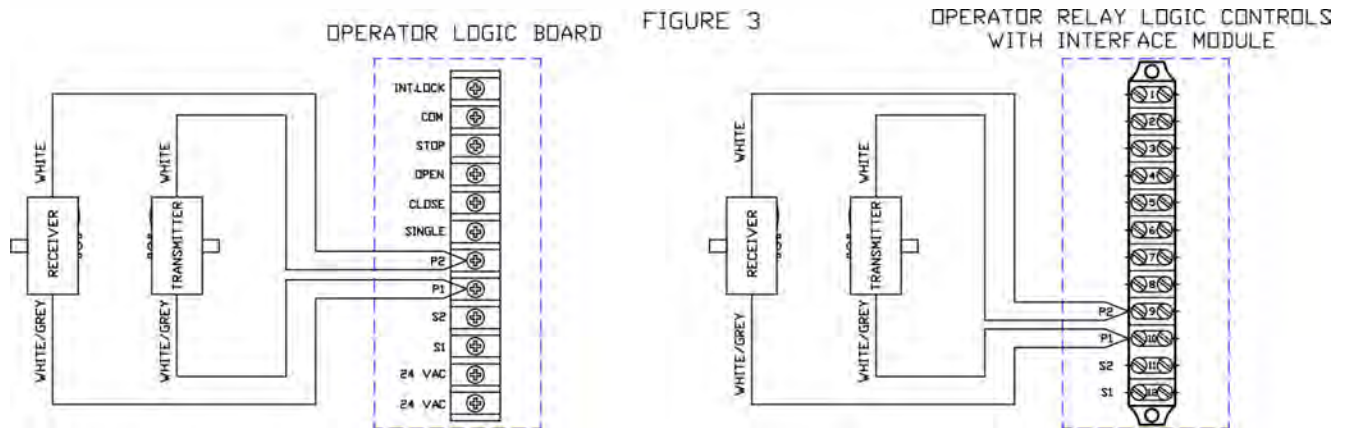

FIGURE 3
- 6- Connect these paired wires to the P1 and P2 terminals on the logic board (or interface module if applicable) as shown in Figure 3.
3. Plug sensors into flexible adapters as shown in Fig. 2. Please note that the 2 brackets are not identical. The receiver (Rx) must be installed into the receiver adapter and the transmitter (Tx) must be installed into the transmitter adapter (Fig. 3).